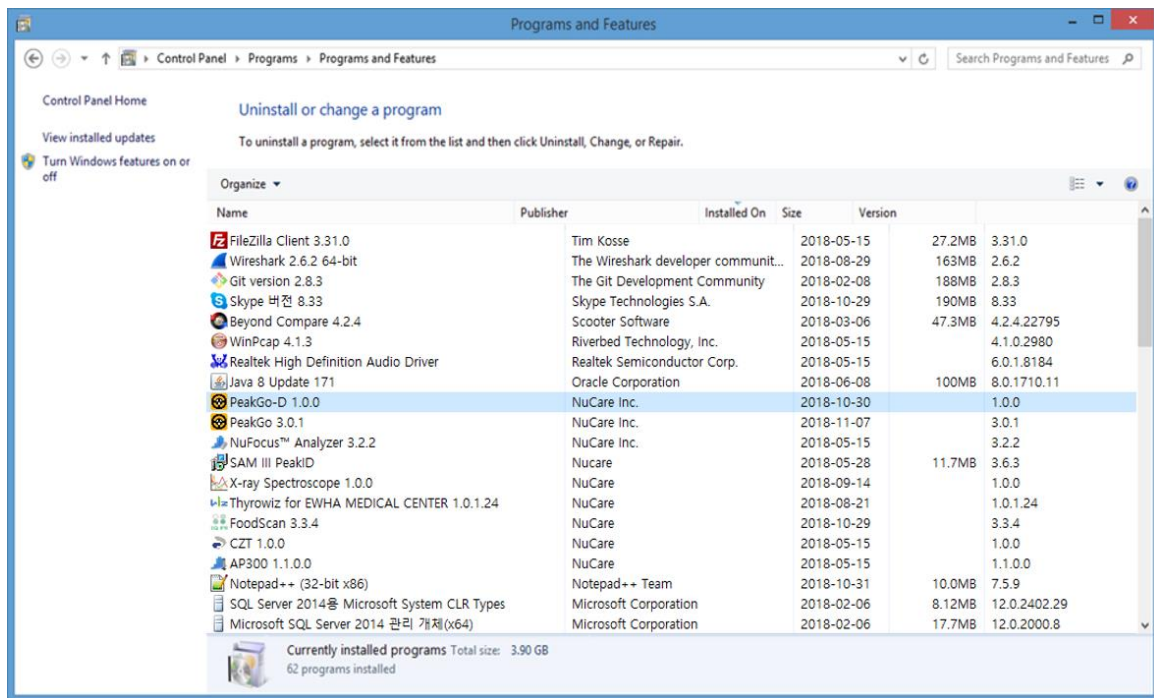

Figure 4.5. PeakGo-D Uninstallation Example.
2. Uninstall “PeakGo-D” (refer to figure 4.5)